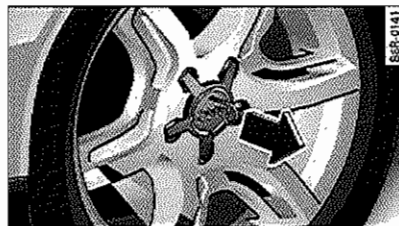

Fig. 228 Changing a wheel: Removing the wheel cover
- Pull off the **decorative wheel cover** \Rightarrow fig. 228. ■